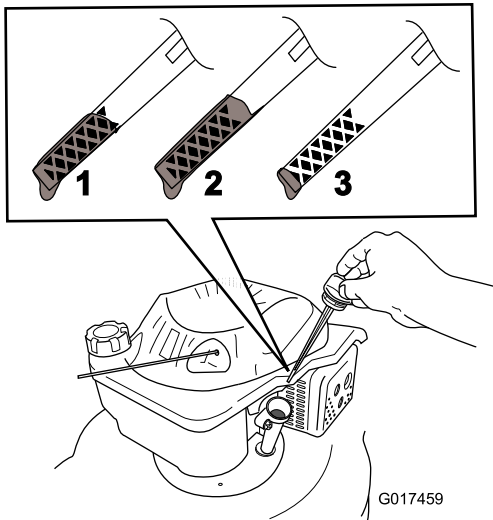

Figure 13
2. Remove the dipstick (Figure 13).
5. Remove the dipstick and read the oil level; refer to Figure 13.